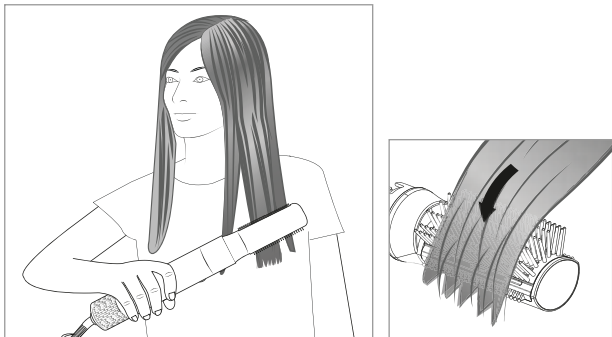

Fig. 8
- 4) Place the half round brush **12** at the roots and pull it down to the ends of the hair, as with a conventional brush (see Fig. 8).